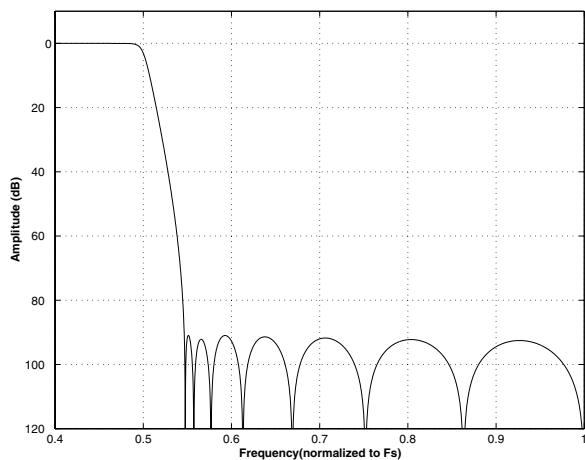

Figure 32. Single Speed (fast) Stopband Rejection
10. Response is clock dependent and will scale with Fs. Note that the response plots (Figures 32 to 55) have been normalized to Fs and can be de-normalized by multiplying the X-axis scale by Fs.